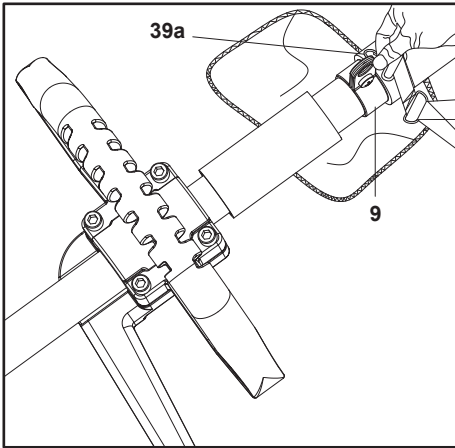

Fig. 25
3. Adjust the length of the harness (39) so that the securing clip (9a) is approximately 15 cm below your waist.
4. Attach the securing clip (39a) to the loop of the hanging hook (9) (Fig. 25).